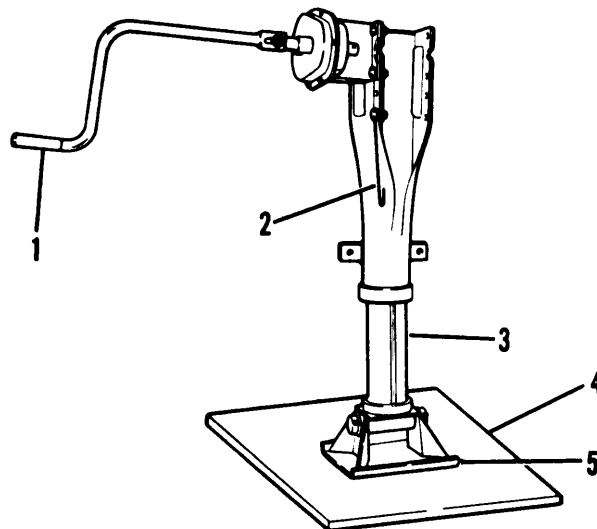

Figure 2-25. Lowering Landing Gear
- (1) Unhook crank (1, fig. 2-25) from crank holder (2).
- (2) Raise the crank (1).